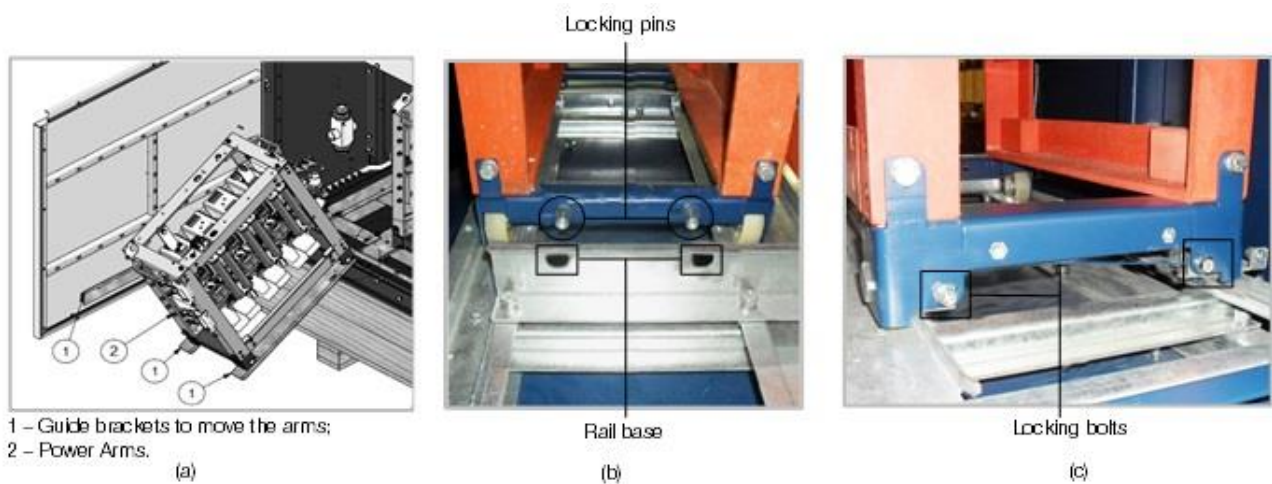

Figure 5.14 (a) to (c): Details of the arm insertion stages
1. Use the auxiliary guide brackets, shown in figure 5.14 (a), to move the arms. These auxiliary guide brackets are supplied with the product and are positioned at the internal part of the medium voltage compartment door when they are not used.
2. The arm must be inserted until the locking pins, located at the rear of the arm, fit into the rail base, refer to figure 5.14 (b).
3. 3. Install the locking bolts at the arm front bottom part, refer to figure 5.14 (c).